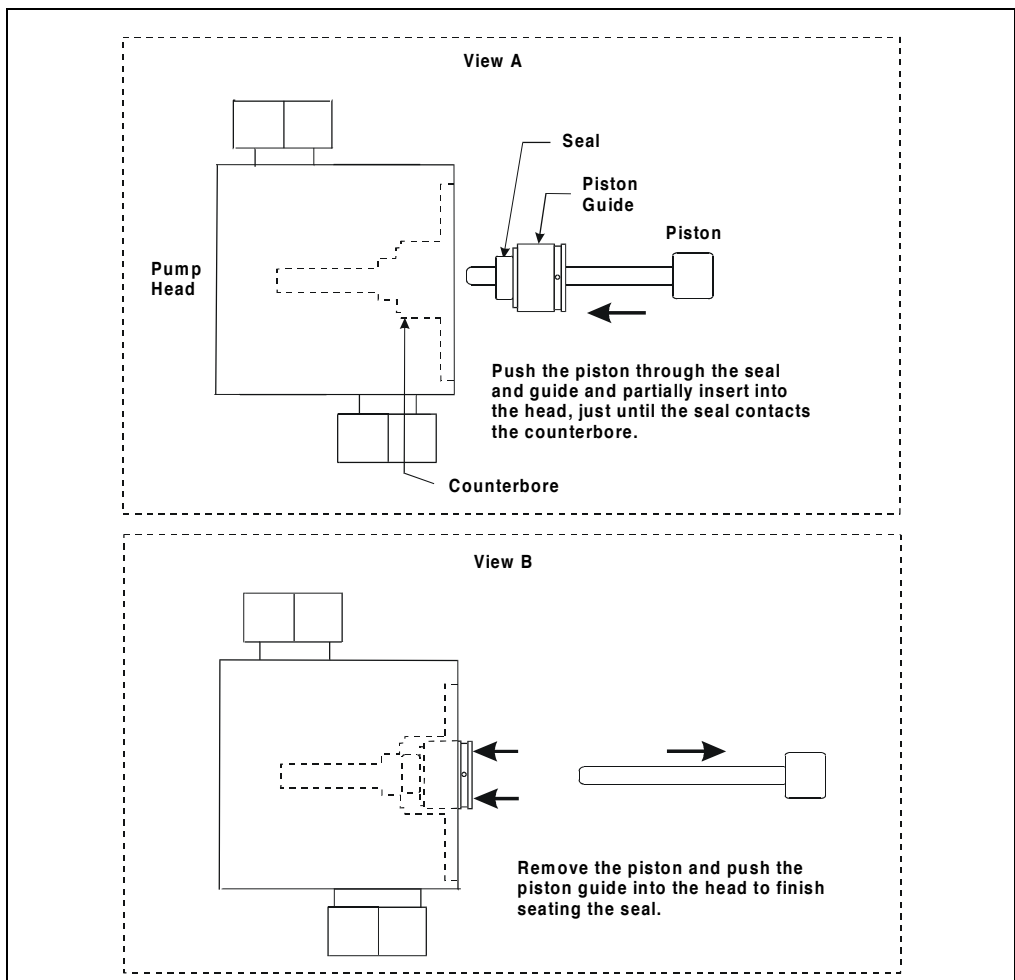

Figure 5-5. Installing the Piston Seal
- a. Push the piston through the piston guide and the new seal. Then, insert the piston, piston guide, and seal into the pump head until the seal contacts the bottom of the counterbore (see Figure 5-5, View A).
- b. Hold the piston guide and seal in place and remove the piston from the head (see Figure 5-5, View B).